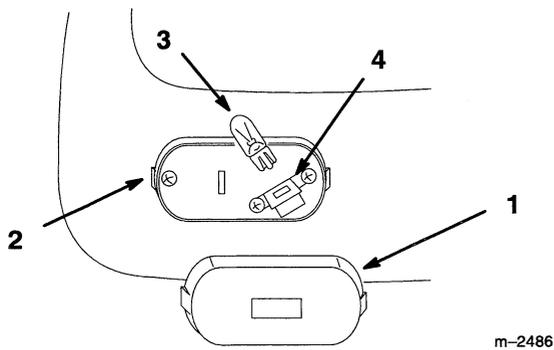

Figure 34
2. Inserting a screwdriver into slot and twist to remove lens (Fig. 34).
1. Align the bulb base with socket and push into position (Fig. 34).
2. Align and snap the lens onto the base (Fig. 34).